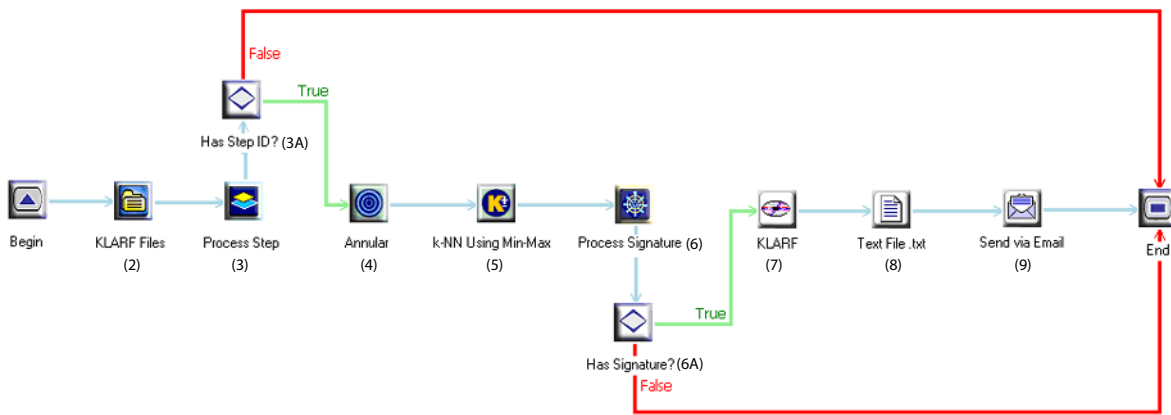
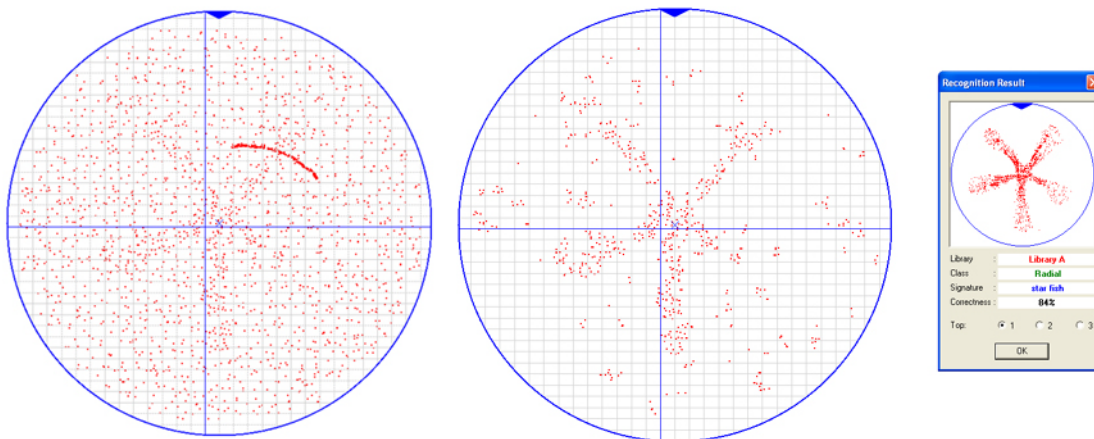

Figure 5
Figure 6
Figure 5 shows an example of a process recipe that may be used to recognize distributed defects from a process tool, such as a Chemical Vapor Deposition (CVD) system. In this recipe, the data source (2) is specified as a KLARF file list, which is defined by the user. A process step filter (3, 3A) checks the KLARF file header for the correct Step ID. The next two steps in the recipe are spatial filters to enhance the defect signature. The annular filter (4) removes the defects from the outermost 10mm of the wafer; the k-NN filter (5) removes background noise and concentrated defect clusters, for example, scratches, that are not part of the signature. The signature recognition step (6, 6A) compares the filtered data to the specified signature library. If the correlation to a signature in the library exceeds a specified threshold, the recipe will create a KLARF (7) and a text file (8), and send an email (9) to the fab engineer with the signature report (text file) and filtered KLARF attached. Figure 6 shows an example of the results of above recipe.